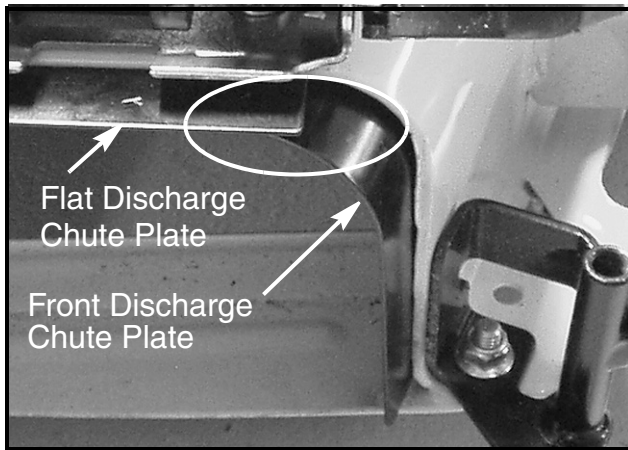

FIGURE 3
7. Insert the Front Discharge Chute Plate, Item 1, into the deck opening. Ensure that the top of the front discharge chute plate is positioned under the flat discharge chute plate. See Figure 3.